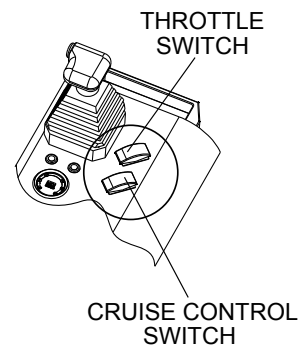

Figure 14. Cruise Control Switch
1. Press the cruise control switch (Figure 14) to engage the cruise control. The cruise control switch LED indicator lights when cruise control is engaged.